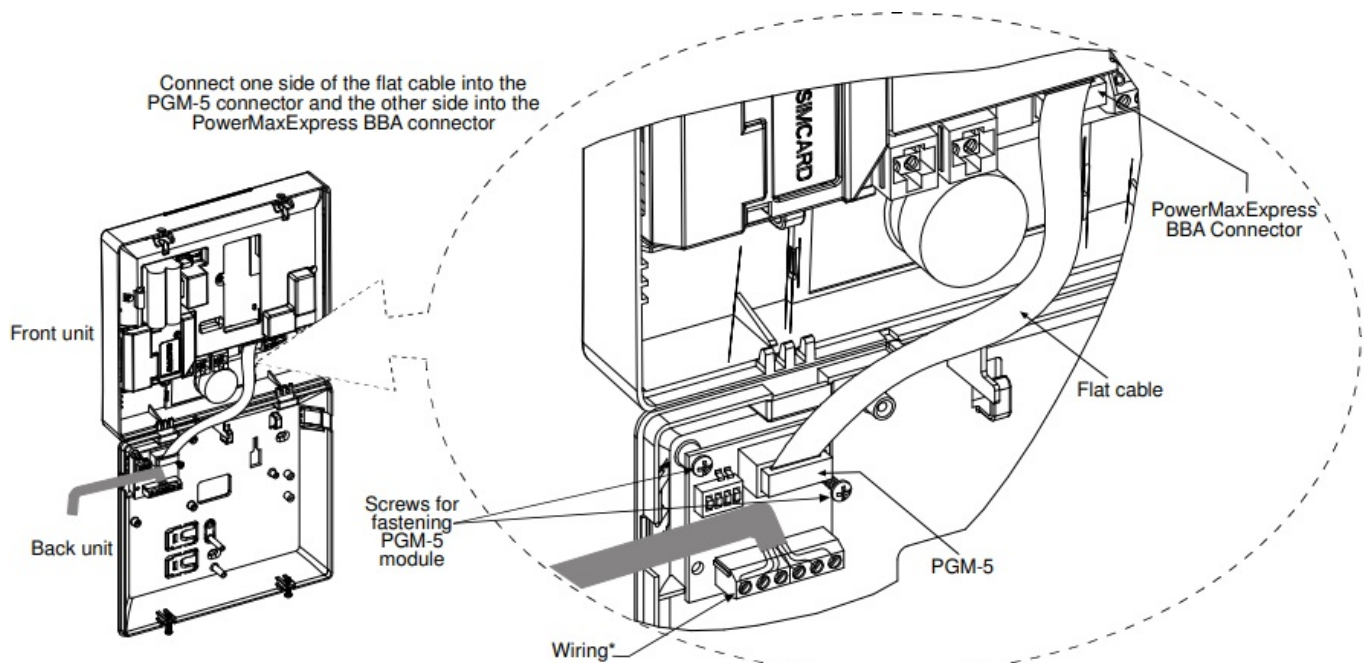

Figure 4c – PGM-5 Mounting and Wiring in PowerMaxExpress Control Panel
- In the PowerMaxExpress and PowerMaster-10 G2 control panels, use the two screws to fasten the PGM-5 module into the marked location, as illustrated in Figure 4c and 4d.